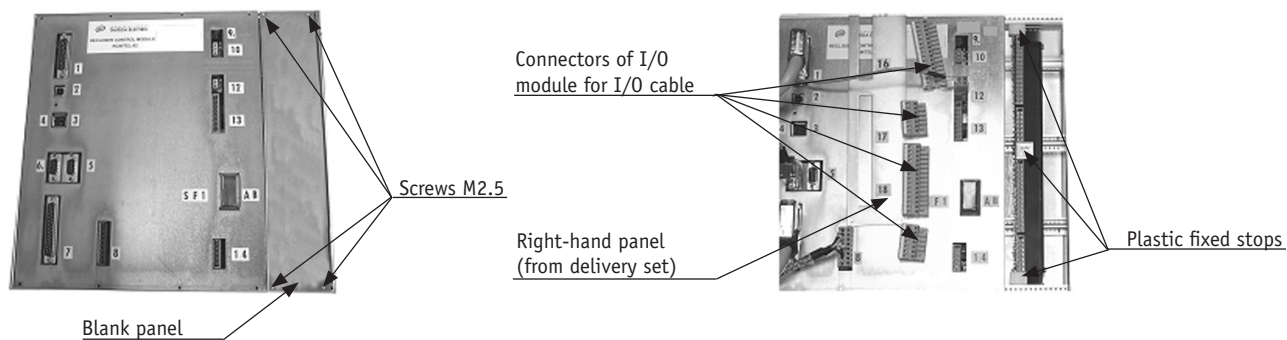

Figure 75
- Remove the plastic fixed stops (Fig. 75).
- Install the panel taken out of the IOM delivery set and fix it with four screws M2.5 (Fig. 75).